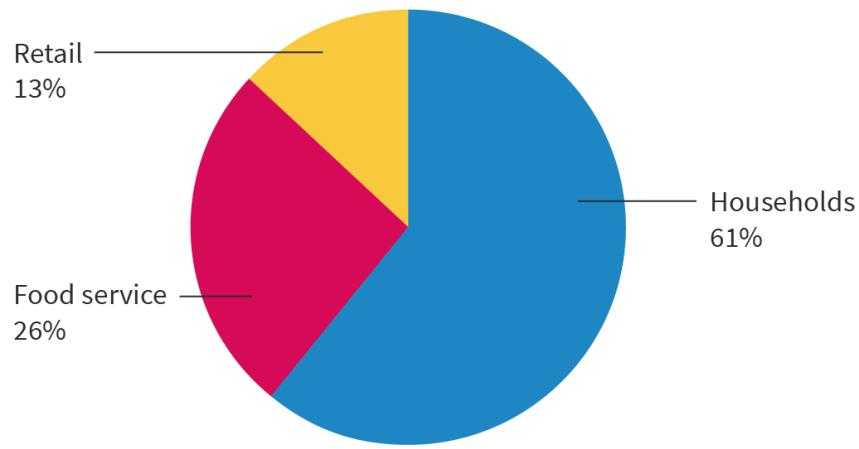

Figure 3. Proportion of total global food waste occurring in households, food service and retail.
(<https://www.unep.org/resources/report/unep-food-waste-index-report-2021>), almost a billion tonnes of usable food is wasted each year globally. This is about 17% of all food produced each year. **Figure 3** shows where that waste occurs after it leaves the farm.
More information for figure 3
- Explain why a pie chart, as opposed to another graphic form, is used for the data in **Figure 3**. [2 marks]
A pie chart is used for the data in **Figure 3** because the data represents parts of a whole that can be represented as slices of a pie. While a bar graph comparing the sectors could also represent the data, it would not convey the same meaning. This is because it would not be as clear that a whole is broken into parts. In this case, household waste comprising 61% of waste, food service comprising 26%, and retail comprising 13% adds up to 100% of the whole value of waste after leaving the farm.